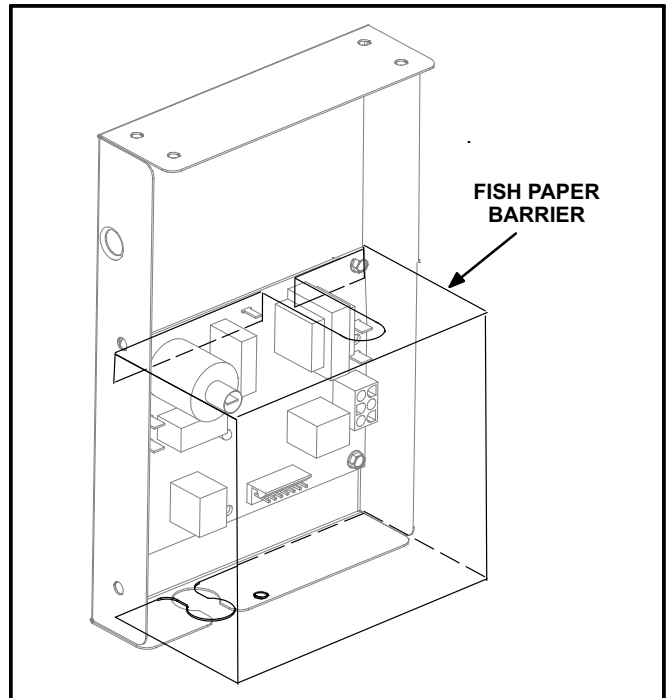

FIGURE 1
- 3- Fold the barrier over the ignition control. See figure 1.